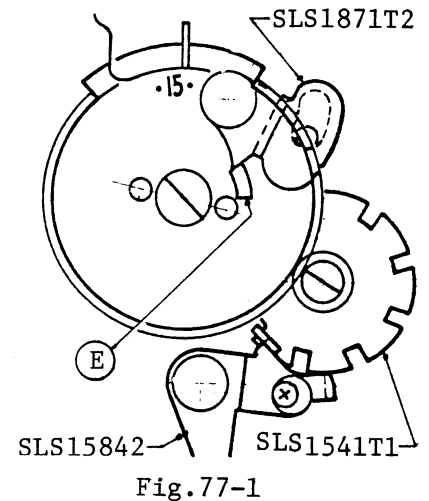

Fig.77-1
When winding the film advance lever more after the fixed number of exposures have been taken (15), turn of the exposure counter is stopped because the (E)-protrusion on back of SLS15521 Film counter base strikes against the SLS1571T2 Change-over lever as shown in Fig. 77-1.
Above means that the end (B) of SLS15842 Stop lever is on the top of the dividing device and can not get into its groove as shown in Fig. 77-1 and 77-2.
- 4) (1)-Friction gear that conveys rotation of the friction wheel engages with (2) SLS-1531S1 Film counter gear No. 1.